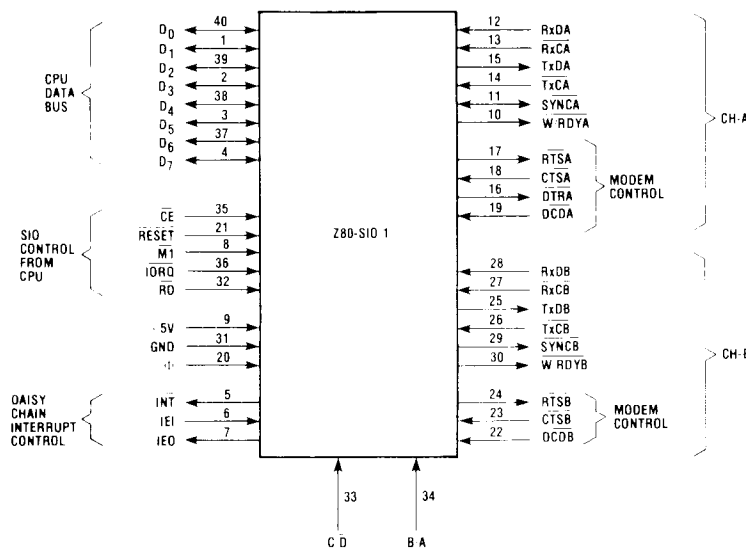

Figure 2. Z80-SIO/1 Pin Configuration
- Z80-SIO/1 sacrifices $\overline{\text{DTRB}}$ and keeps $\overline{\text{TxCB}}$, $\overline{\text{RxCB}}$ and $\overline{\text{SYNCB}}$ (Fig. 2).